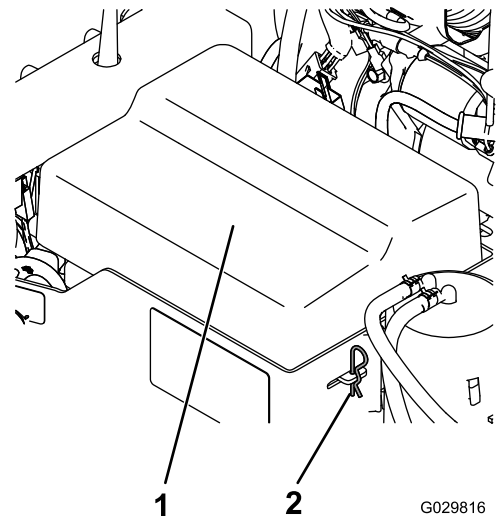

Figure 3
1. Remove the 2 hairpins that secure the battery cover to the battery box, and remove the cover (Figure 3).
6. Assemble the battery cover to the battery box, and secure the cover with the 2 hairpins (Figure 3).